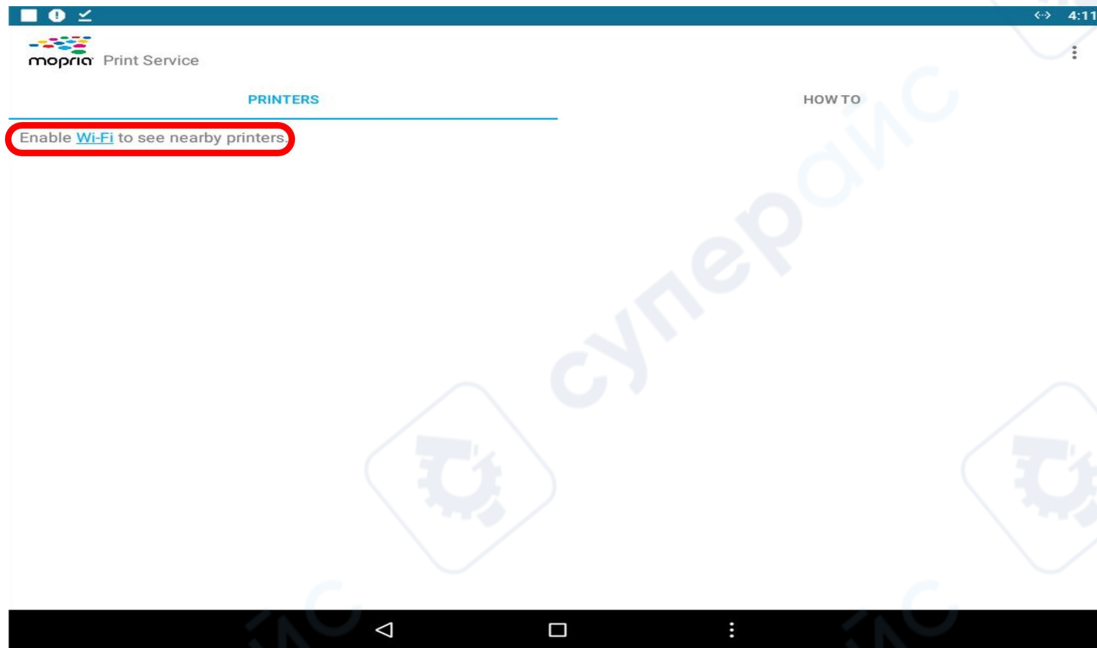
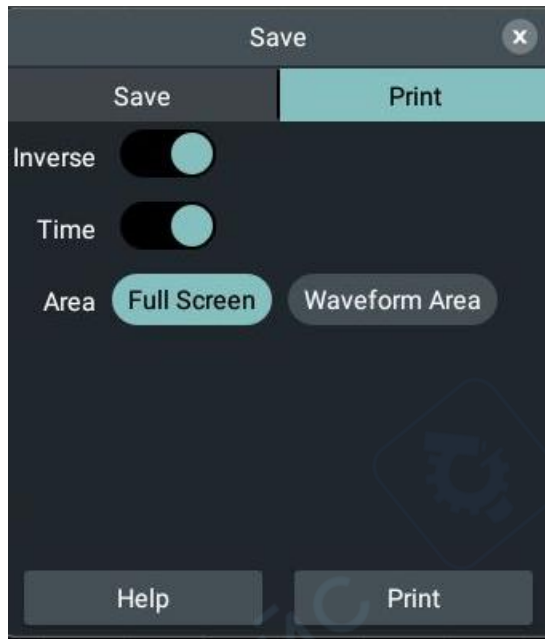

Figure 8
Figure 9
4、 After entering the printing software interface, click "**Enable Wi-Fi to see nearby printers**" to connect the printer's Wi-Fi, as shown in Figure 8. The Wi-Fi connection is successful, as shown in Figure 9.